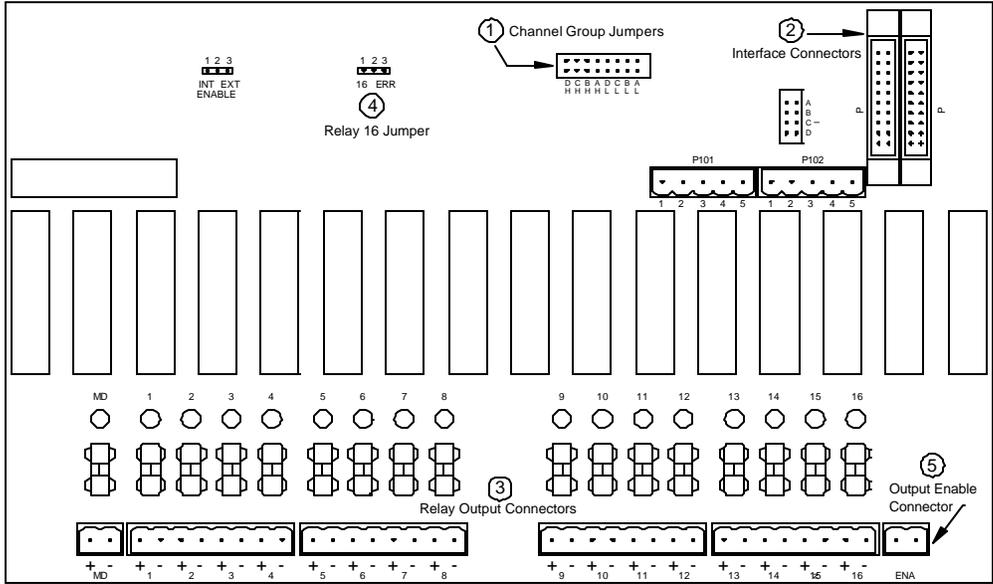

Figure 3.4.1 PLS-601 Solid State Relay Board
Figure 3.4.1 shows the layout of the solid state relay board.
The PLS-601 control unit provides sixty-four channel outputs that are divided into four groups of sixteen channels each. The channels are designated as A01-A16, B01 - B16, C01 - C16, and D01-D16. Up to four solid state relay boards, each with sixteen output relays can be attached to the PLS-601 control unit. Each board must be assigned to one of four output groups designated as A, B, C, or D. This is done by installing the two channel group jumpers in the proper positions on the relay board (see "Channel Group Jumpers" in Figure 3.4.1). The solid state relay board must be configured to match the PLS-601 output group that will drive it. Output Group A will drive relay output board A, Group B will drive relay output board B and so forth.
Each solid state relay output board contains two 20 pin male interface connectors labeled P101A and P101B (see Interface Connectors in Figure 3.4.1). The PLS-601 Control Unit will connect to P101A through the use of a twenty pin ribbon cable. To add additional solid state relay output boards, simply connect P101B of the first (or previous) relay output board to P101A of the next relay output board. Up to four solid state relay output boards can be connected to the PLS-601 Control Unit by this interface method.
Each solid state relay board contains four 8 pin plug connectors that provides two output pins for each of the sixteen channels (see Relay Output Connectors in Figure 3.4.1). These outputs are normally off until activated by the PLS-601 Control Unit. The solid state relay output connectors are labeled (+ 1 -) through (+ 16 -). In addition, a 2 pin connector is available for the MOTION DETECT function. This connector is labeled (+ MD -).
Solid state Relay 16 may be used as one of the standard channel output relays, or it may be used as an indication that an error has occurred in the PLS-601 Control Unit. To enable solid state Relay 16 as a standard output, connect pins 1 and 2 together of J1 (see Relay 16 Jumper in Figure 3.4.1). To enable solid state relay 16 as an error indicator, connect pins 2 and 3 together of J1. When solid state relay 16 is used as an error indicator, it will be active in non error conditions (ON) and non-active in an error condition (OFF).
Each solid state relay board has a 2 pin input connector that implements an OUTPUT ENABLE function (see Output Enable Connector in Figure 3.4.1). This connector is labeled ENA. The ENA pins must be shorted together in order for any of the seventeen solid state relay outputs to be enabled. If this connection is opened, all seventeen solid state relay outputs will be disabled.